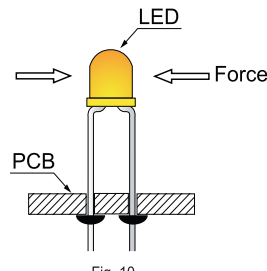

Fig. 10
7. After soldering or other high-temperature assembly, allow the LED to cool down to 50°C before applying outside force (Fig. 10). In general, avoid placing excess force on the LED to avoid damage. For any questions please consult with Kingbright representative for proper handling procedures.